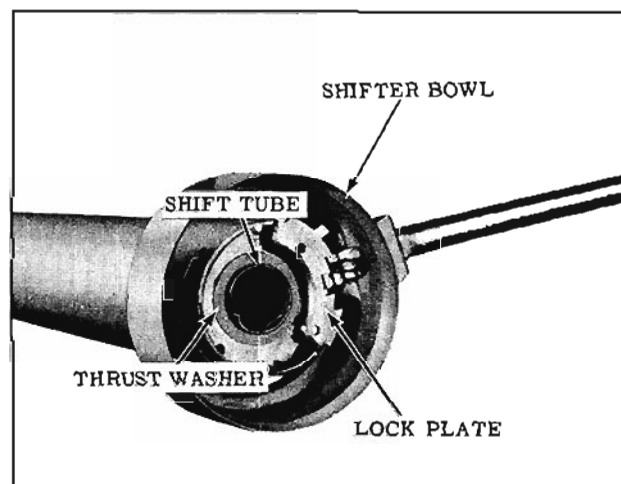

Fig. 8-107 Lock Plate Location
6. Place the wave washer on the lower side of the lock plate, retain with ball joint lubricant, then slide the lock plate into position through the opening in the mast jacket. (Fig. 8-107)